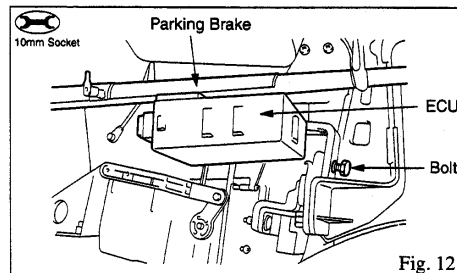

Fig. 12
- (11) If there is an ECU as shown in the figure, remove it. (1 Bolt) (Fig. 12)